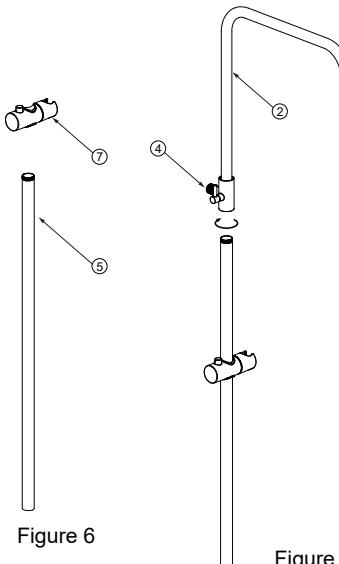

Figure 7
- b) Unlock the catch on the pipe connector ④ and connect the arm pipe ② to the riser rail and tighten up (Figure 7).